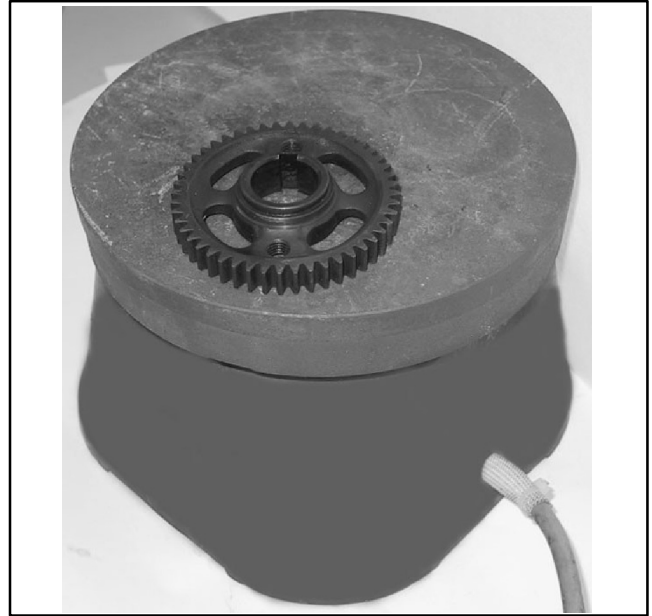

Figure 10-70 Camshaft Gear
1. Put the camshaft gear wheel in an oil bath or an electric heater plate at a temperature of 90-100° C (95-210° F). See Figure 10-70.